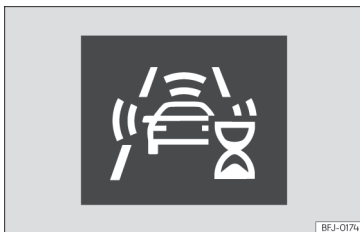

Fig. 110 On the instrument cluster screen: indication of the system's initial self-calibration.
- In the first few instants of driving after switching on the ignition, due to the system's initial auto-calibration. During this period, a status icon  Fig. 110 is displayed.